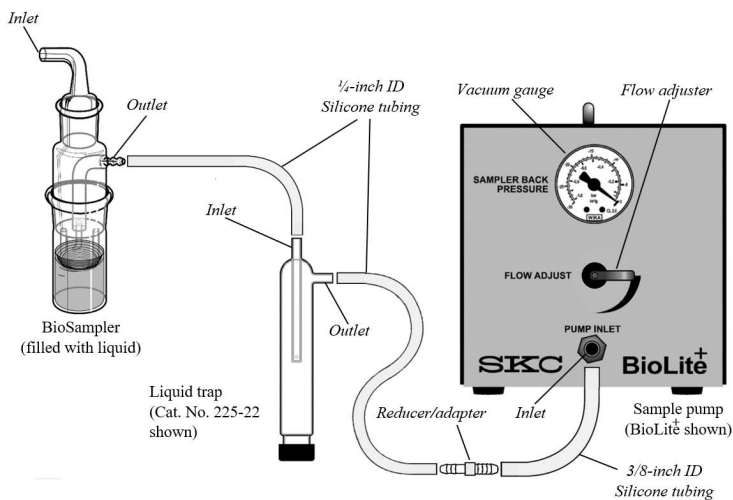

Figure 3. Sampling Train with Liquid Trap
- a. **If using a collection liquid, it is important to use a liquid trap** (Figure 3) to protect the sample pump. Connect the BioSampler outlet (nozzle section) to the inlet of a liquid trap and connect the liquid trap outlet to the sample pump inlet as shown in Figure 3.